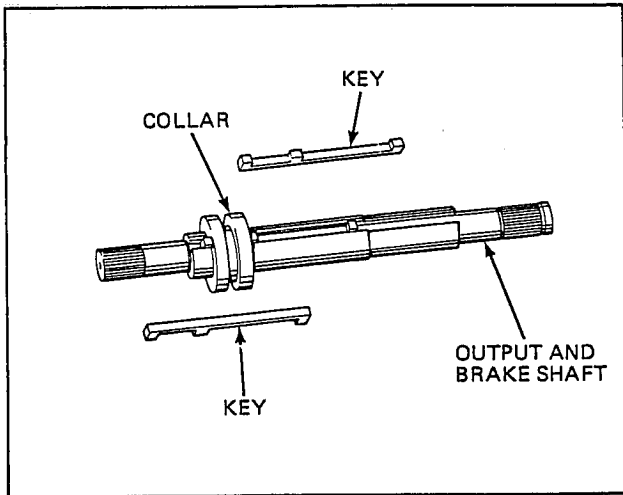
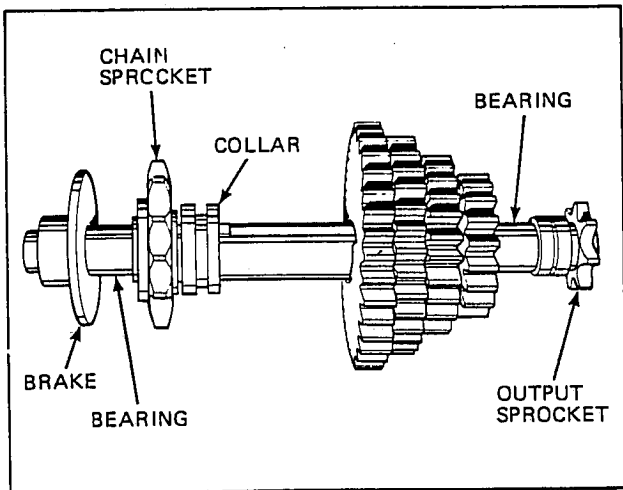

Figure 2-27
Figure 2-29
2. Install collar and shifter keys to output and brake shaft and follow with largest to smallest shift spur gears. See Figures 2-27 and 2-28. Install chain sprocket, bearing, thrust washer and output sprocket. See Figure 2-29 and 2-33.